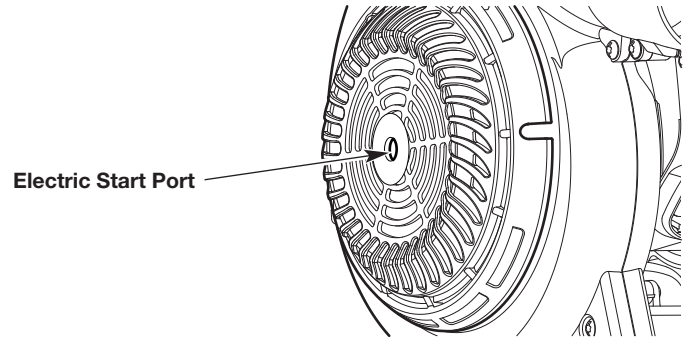

Fig. 13
6. Insert the electric start accessory into the electric start port (Fig. 13). Refer to the *Operation* section of the electric start accessory operator's manual.